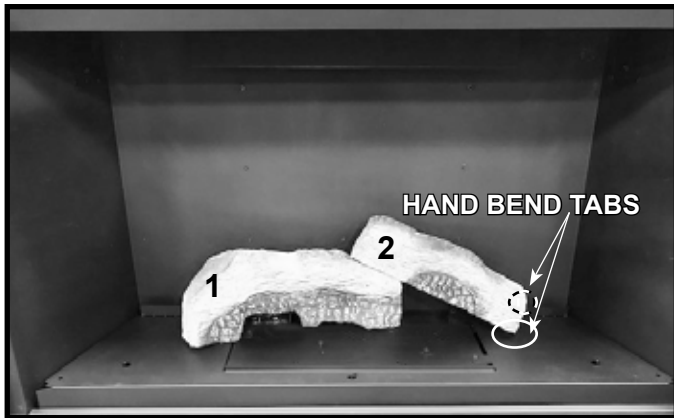

Figure 5. Install Log #2
- LOG #2:** Locate and install Log #2 by positioning the right end of the log against the two rear right hand bend tabs. The back right corner of the log will be placed between these tabs. The left side of the log will rest on Log #1. When installed correctly, the front face of Log #2 should be flush with the front face of Log #1. See Figure 5.